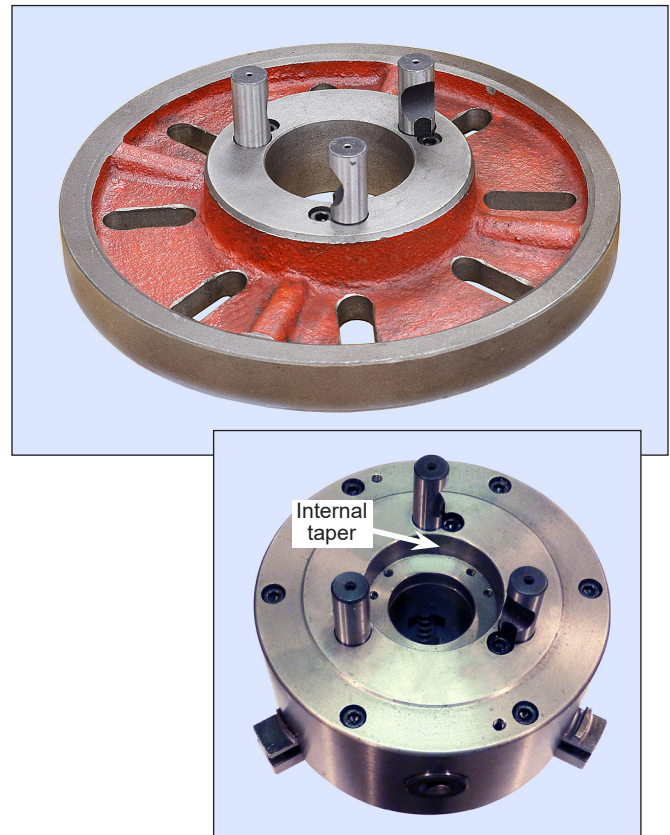
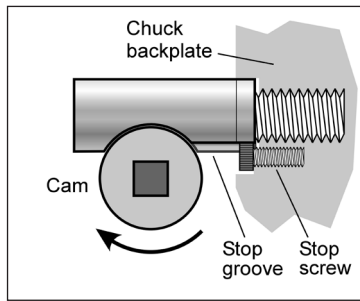

Figure 3-8 D1-4 mounting studs on the chuck & faceplate
Figure 3-9 Camlock stud detail
Chucks and faceplates are secured to the PM-1130V spindle by three D1-4 Camlock studs, Figure 3-8. Each camlock stud has a D-shaped crosscut to engage a corresponding cam within the spindle nose, Figure 3-9. The function of the cams is to pull the chuck backplate inward to locate its internal taper firmly on the spindle nose.
Before doing anything, protect the lathe bed **AND** support the full weight of the chuck by hand, or with spacer blocks. Using the T-handled 10 mm (about 3/8") square wrench supplied with the lathe, turn counter-clockwise the three cams on the spindle nose to set the cam markers at 12 o'clock, Figure 3-9 (The supplied T-handled wrench is used to turn the cams and to tighten the 3-jaw chuck on the workpiece.)
2. While **supporting its full weight**, install the chuck without tilting, Figure 3-9, then gently turn each of the cams **clockwise** — snug, firm, but not locked in this first pass.